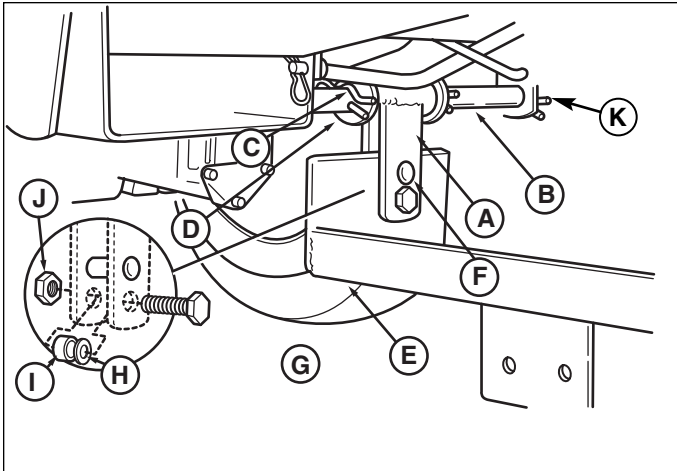
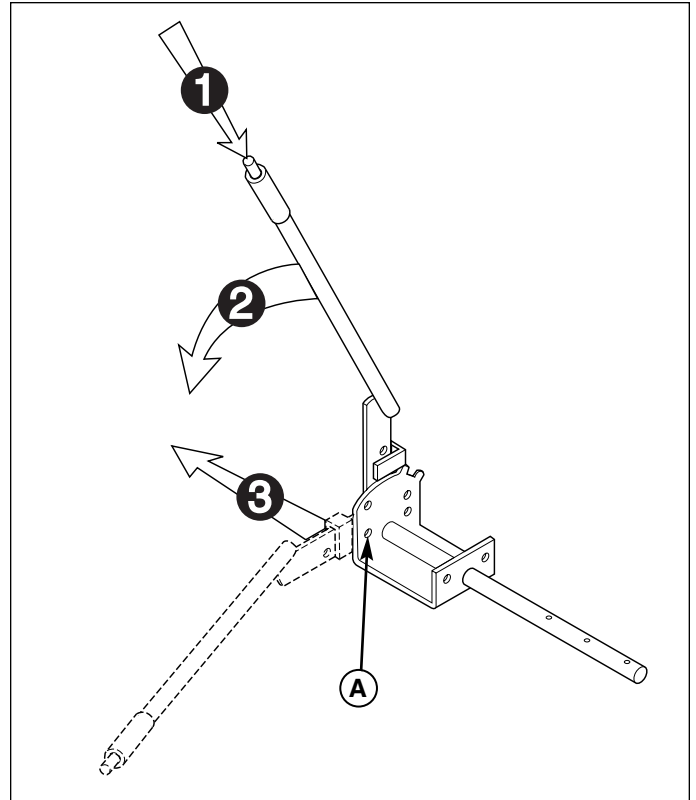

Figure 25. Installing Hitch to Rear Bracket
Figure 26. Lift Lever Removal
1. Remove the safety clip (K, Figure 25).
2. Remove the spring clips (C) securing the rear hitch bracket (A) to the lift lever rod (B).
3. See Figure 26. Remove the cap screw from location (A). Depress the lift lever release button and rotate the lever forward until the lever latch clears the mounting bracket. Slide the lever and rod assembly out of the hitch bracket and mounting bracket.